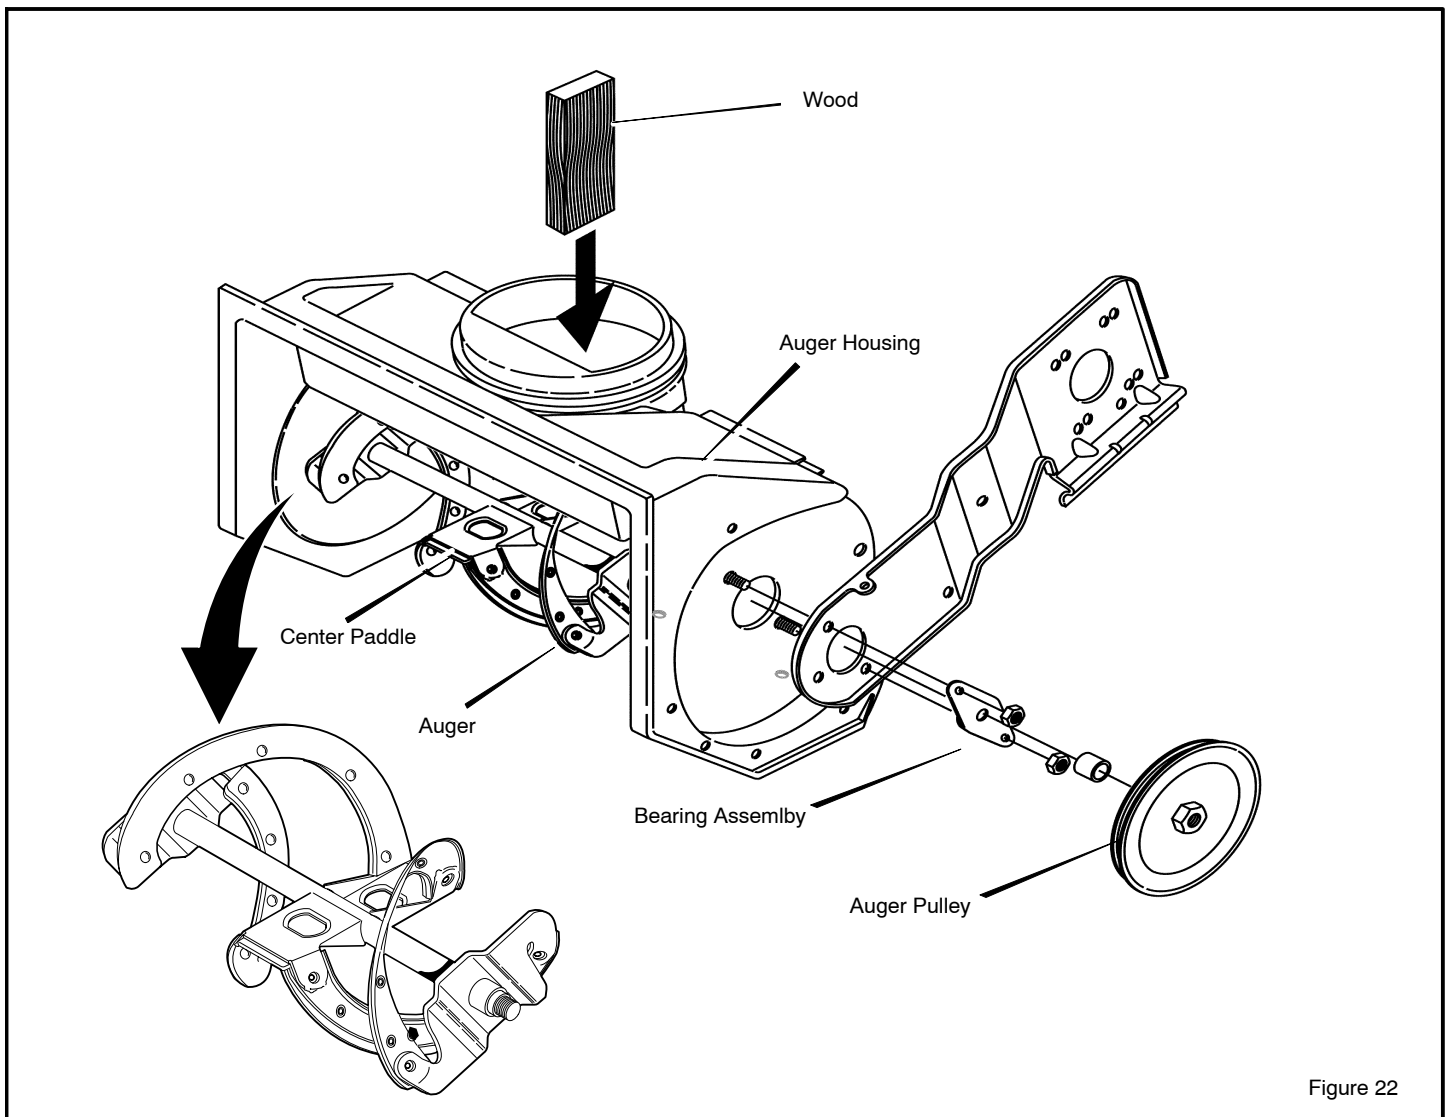

Figure 22
3. Use a 1-inch wrench and remove the **auger pulley** from the auger shaft (threads are left hand; turn clockwise to remove). (See Figure 22).